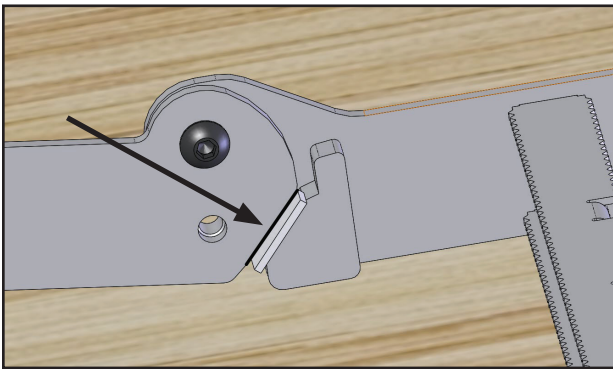

Figure 3
5. Using a 10 gauge shim pushed firmly against the ladder stop block, mark a straight line on both sides of the lower ladder (Figure 3). **NOTE:** If the 10 gauge shim is not thick enough to be able to mark a line on the lower ladder, the thickness of the shim should be increased to 3/16". If the 3/16" is not thick enough to mark the lower ladder as described, then the lower ladder will need to be replaced.